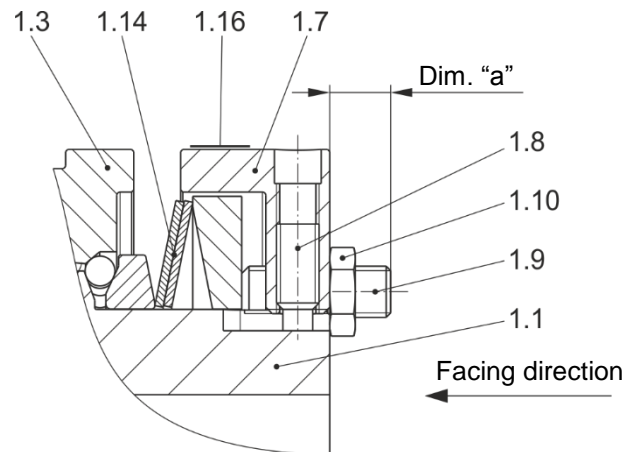

Fig. 6
## Torque Adjustment (Figs. 6 and 7)
Adjustment is carried out via dimension "a" by turning the set screws (Item 1.9, Fig. 2 and Fig. 6).
You should be facing the adjusting nut (1.7) as shown in Fig. 6.
- Find dimension "a" in the Adjustment Table (Item 1.16, Fig. 3). (The Adjustment Table (1.16) is glued onto the outer diameter of the adjusting nut (1.7), see Fig. 6).